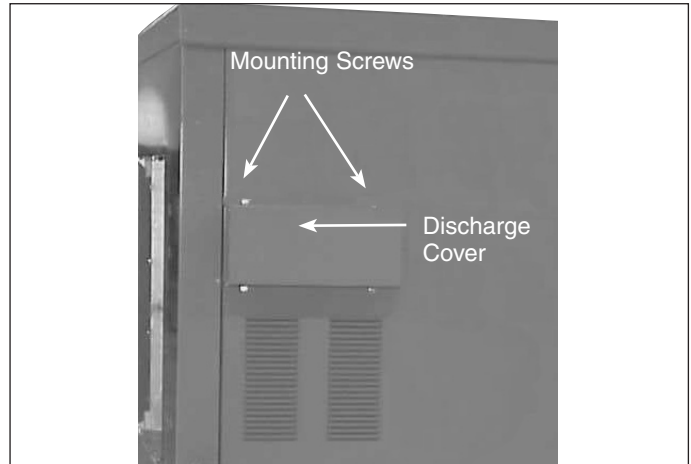

Figure 3.2
4. Mount the exhaust collar (See Figure 3.2) to the access door with the four #10 x 1/42" sheet metal screws provided. Align the vent collar using the two existing side holes in the access door and centering it over the discharge opening. After securing the vent collar using the two existing side mounting holes, use two self-tapping screws for the top and bottom holes.